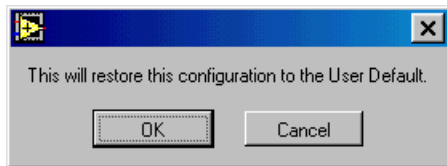

Figure 7-4. Restore User Defaults Message Box
- ❑ **Restore User Defaults** — Mark this option to restore the user default configuration settings. Before restoring the settings, the LMT software asks you to confirm that you want to replace the current settings with the user default settings (Figure 7-4). Click **OK** to restore the user default configuration settings and update the SSU-2000 configuration settings and the LMT display. Click **Cancel** to close the message box without restoring the user default configuration settings, or updating the SSU-2000 and the LMT display.